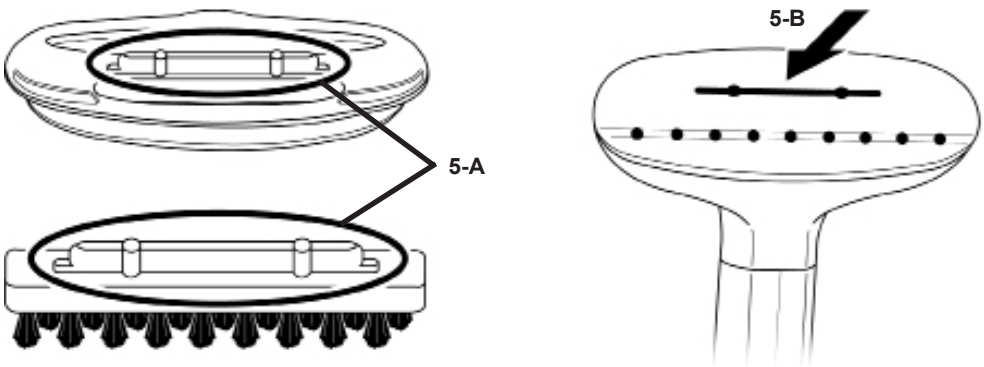

FIGURE 5
2. Align long peg on back of Fabric Brush or Lint Remover (FIGURE 5-A) with corresponding slot on face of Steam Nozzle (FIGURE 5-B).